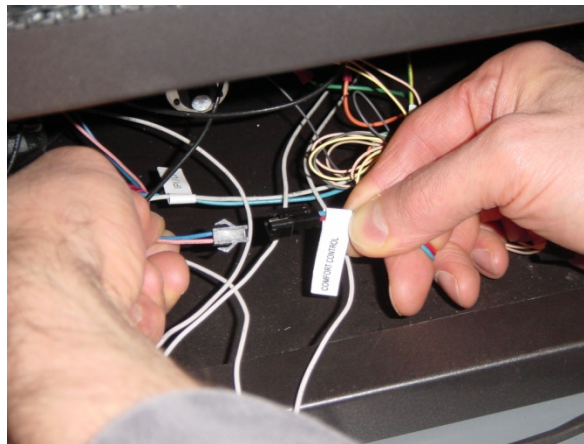

Figure 20
- 14 Attach the wiring harness to the comfort control valve connection (see Figure 20).